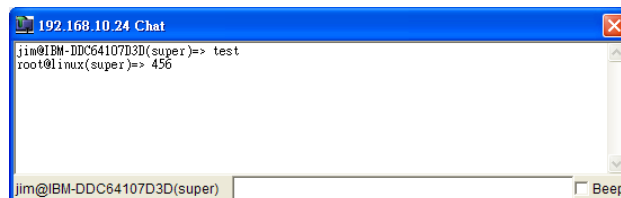

Figure 10-9 Chat Window
- Chat Window: Multiple users can chat with this window. Please refer to Figure 10-9.